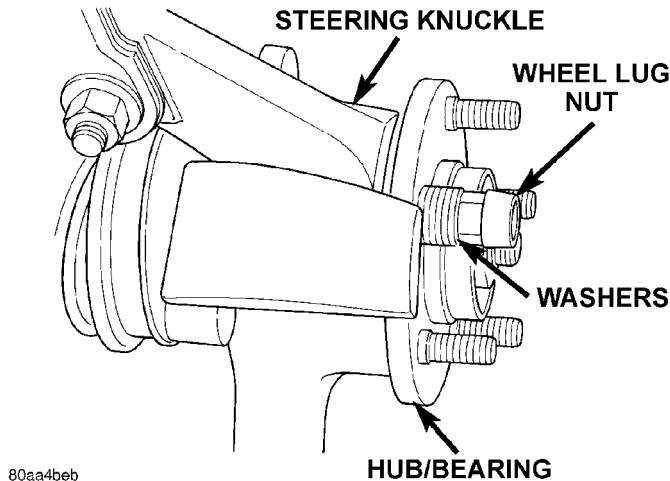

Fig. 57 Installing Wheel Stud
(1) Install replacement stud in flange of hub/bearing. Install washers and wheel lug nut on stud (Fig. 57). Lug nut **MUST** be installed with the flat side of the lug nut against the washers (Fig. 57).